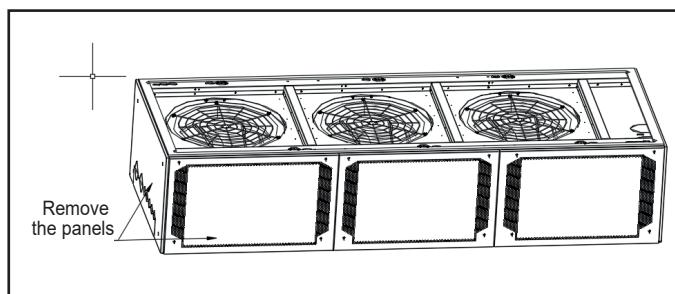

Figure 5-4. Schematic Diagram of Removing the Panels
1. Remove the panels around the base, as shown in the Figure 5-4.